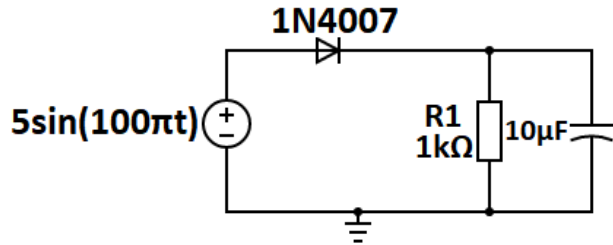

Fig. 6: Half-Wave Rectifier Circuit
1) **Circuit Diagram of Task 4:** The circuit shown in Figure 6 consists of a diode (1N4007), a resistor, a sinusoidal voltage source, and a capacitor for smoothing the output signal.
- 1) **Circuit Assembly:** Assemble the half-wave rectifier circuit as shown in Figure 6. Use the following components: